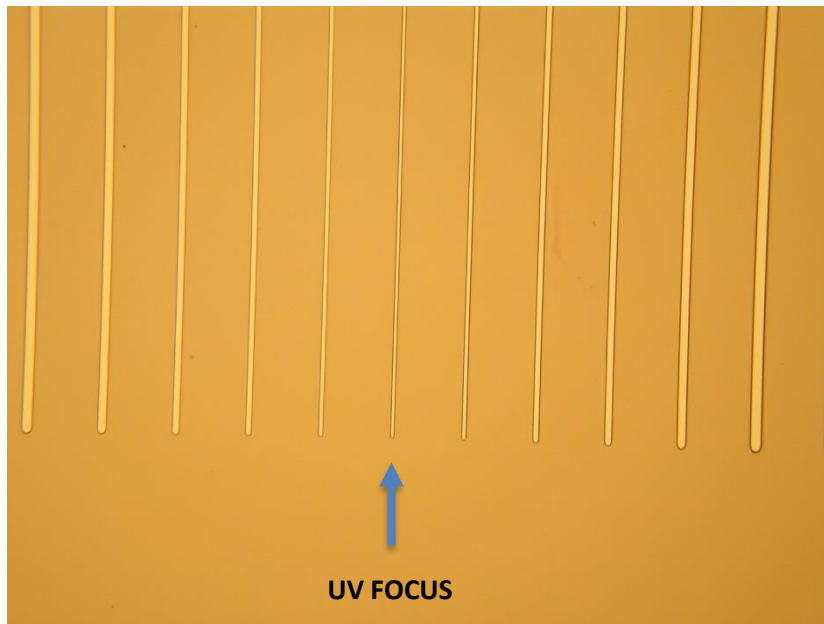

Figure 19: Results
- Observe the results and identify the finest and best defined line see Figure 19.